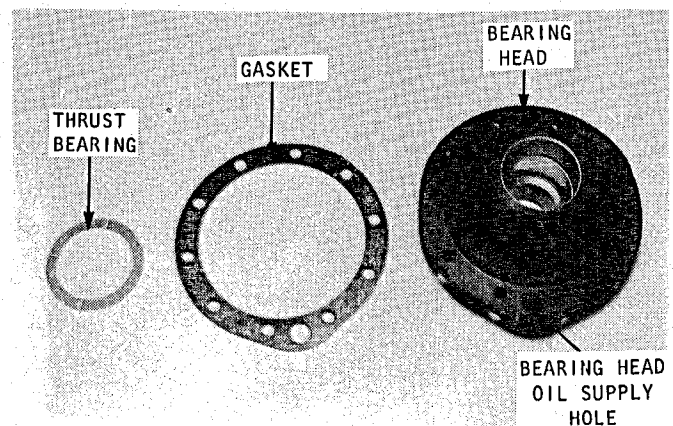

Figure 55
- Lift the bearing head and gasket off the housing. The thrust bearing on the end of the crankshaft may come with the bearing head. If it does not, lift the thrust bearing off the end of the crankshaft. Figure 55 illustrates the bearing head, gasket and thrust bearing.